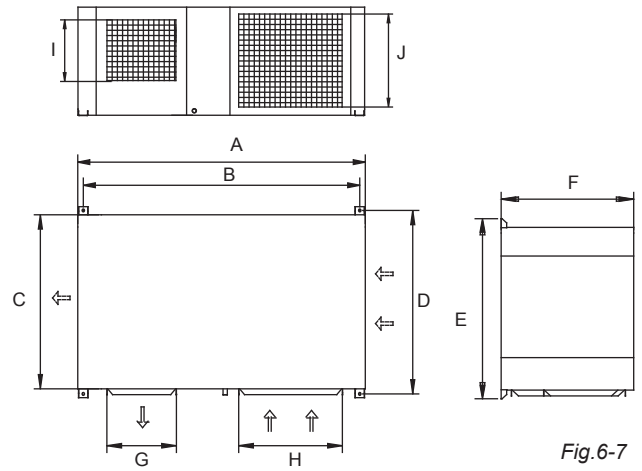
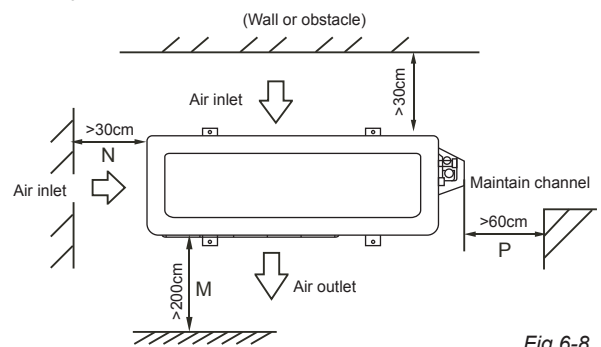
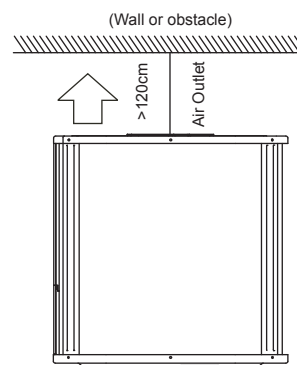

Fig.6-7
Fig.6-8
Fig.6-9
- The minimum distance between the outdoor unit and obstacles described in the installation chart does not mean that the same is applicable to the situation of an airtight room. Leave open two of the three directions.(Refore to Fig.6-7, Fig.6-8, Fig.6-9)